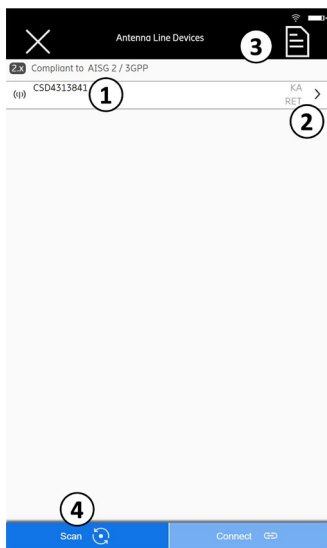

Fig. 63: Devices: Connected to a RET
1. Tap ① in Fig. 63 to open the list with the subunits.
1. Tap ② in Fig. 63 to show the RET properties.